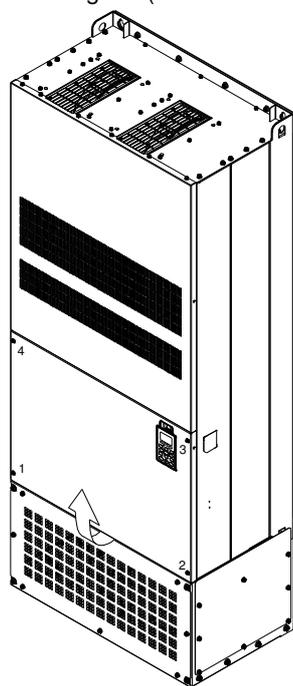

Figure 1
(1) Loosen the screw and remove the top cover (figure 1)